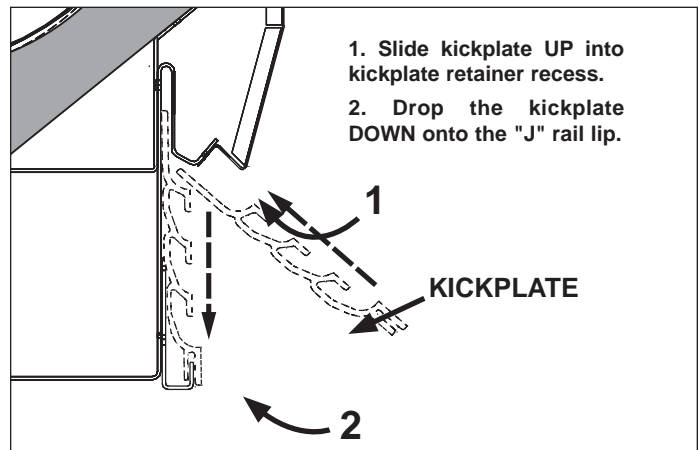

Fig. 5 Kickplate installation
7. Install lower front panel or upper kickplate retainer (if included). Insert top of kickplate into the kickplate retainer. Slide the kickplate up into the retainer, then down onto the "J" rail (Fig. 5). The bottom of the kickplate fits over the extruding "lip" of the "J" rail.